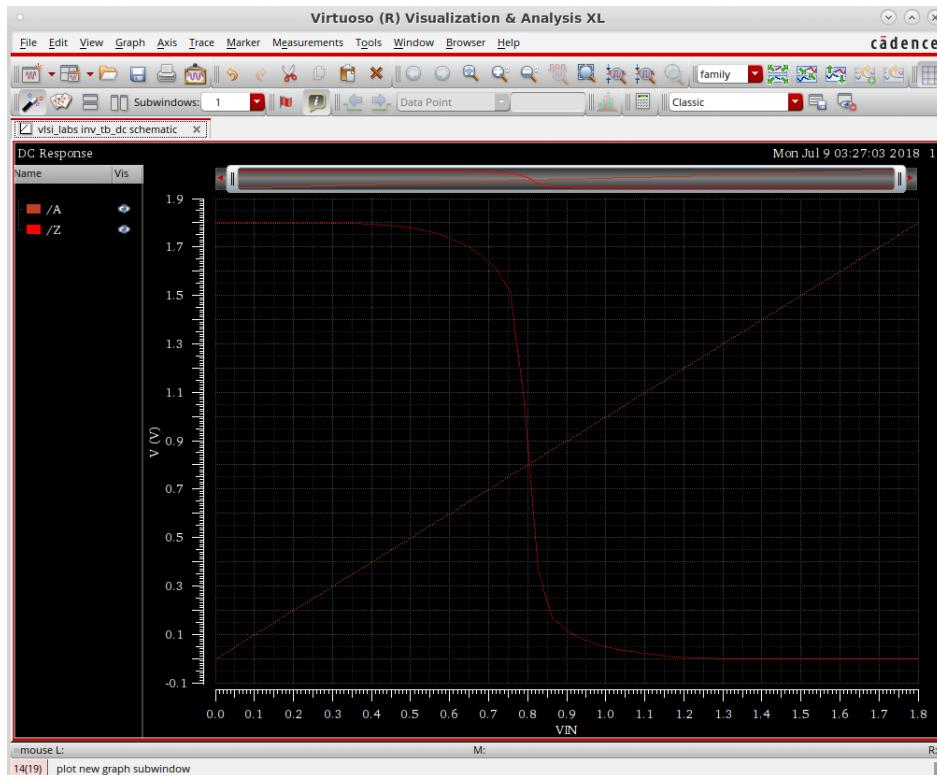

Figure 19: Inverter VTC curve.
5. Run the simulation. Your curve should look like Fig. 19.